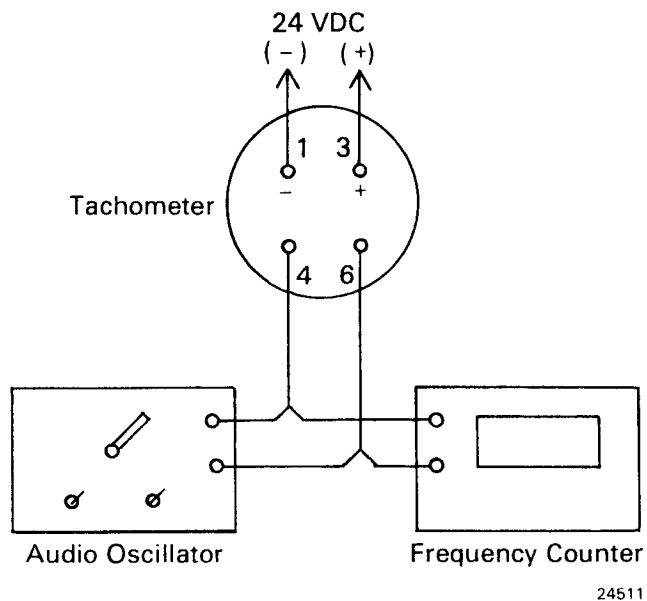

Fig.4 - Bench Setting Connections
1. Connect 24 V DC to power input terminals 3 (Pos.) and 1 (Neg.), Fig. 4.